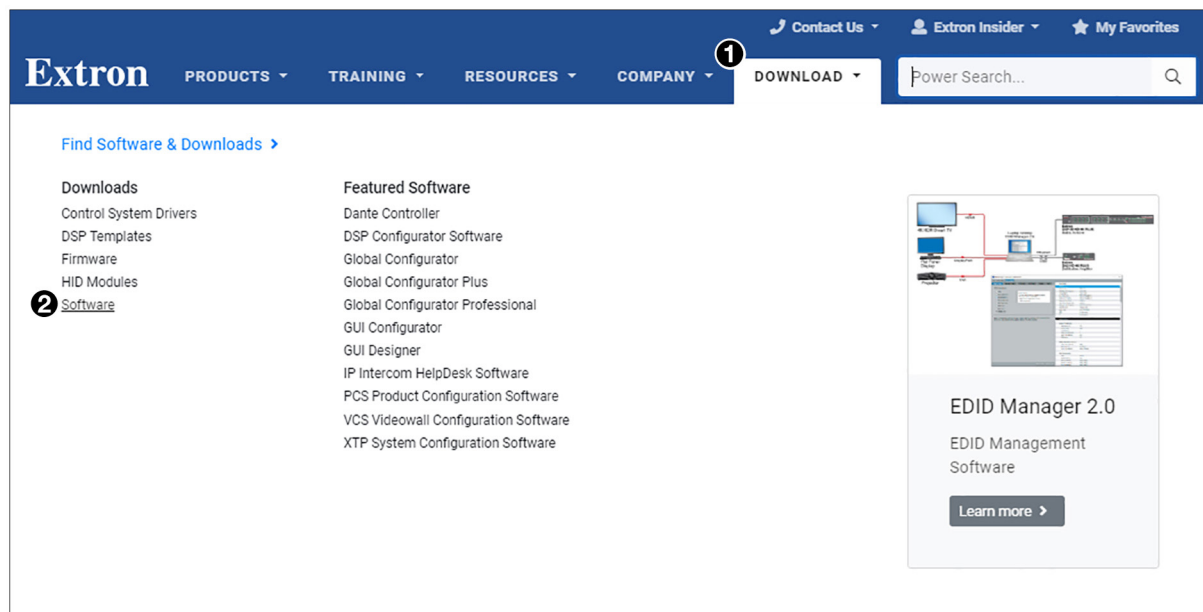

Figure 15. Download Center Page on the Extron Website
1. On the Extron website, select the **Download** tab (see figure 15, ①).
2. Move the pointer to the **Software** link (②) in the Downloads column and click it.